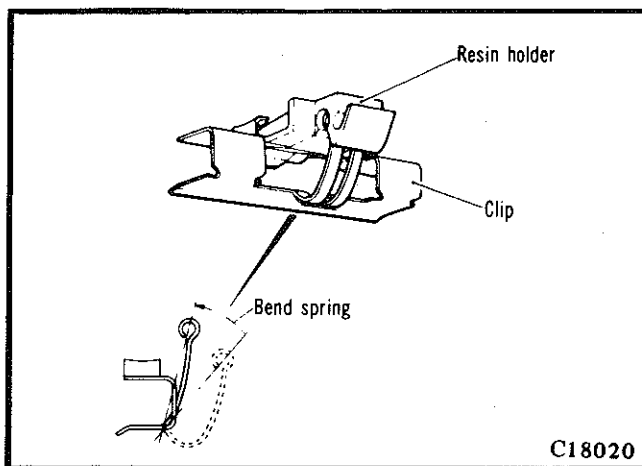

Fig. 1—Bending spring clip
- (1) Remove the windscreen wiper arms.
- (2) Remove the interior sunvisors and rear vision mirror.
- (3) Remove the front pillar interior trims and pull down the front of the head lining.
- (4) Remove the windscreen lower, side and upper moulding (in that order) using Tool No. E23M5.
- (5) Remove all the plastic moulding retainers from the spring clips and bend the spring clip upward as shown in Fig. 1.